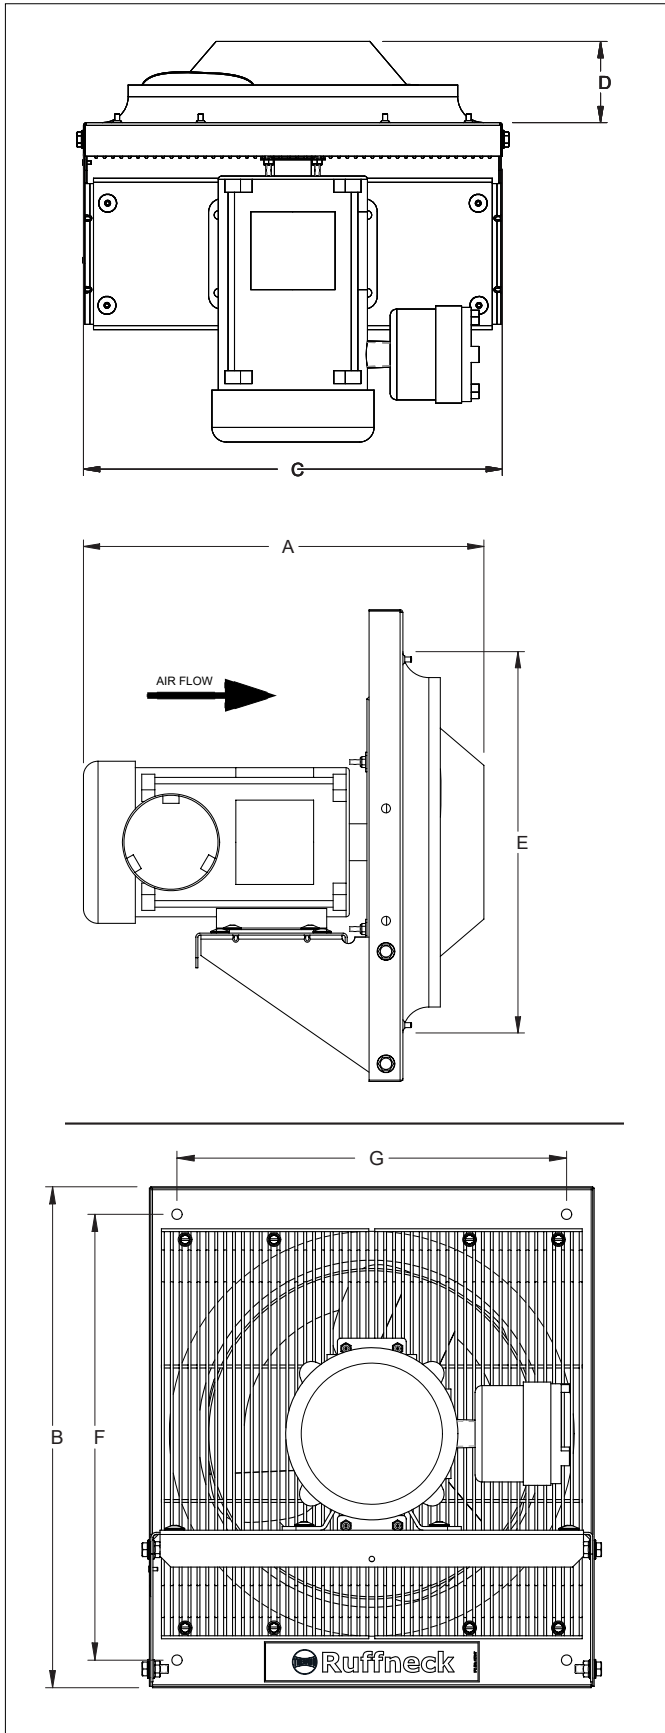

Figure 1 – Dimensions
2. Fan(s) are designed to be mounted from the rear using four 3/8" holes. For fan dimensions, see Figure 1, page 5.